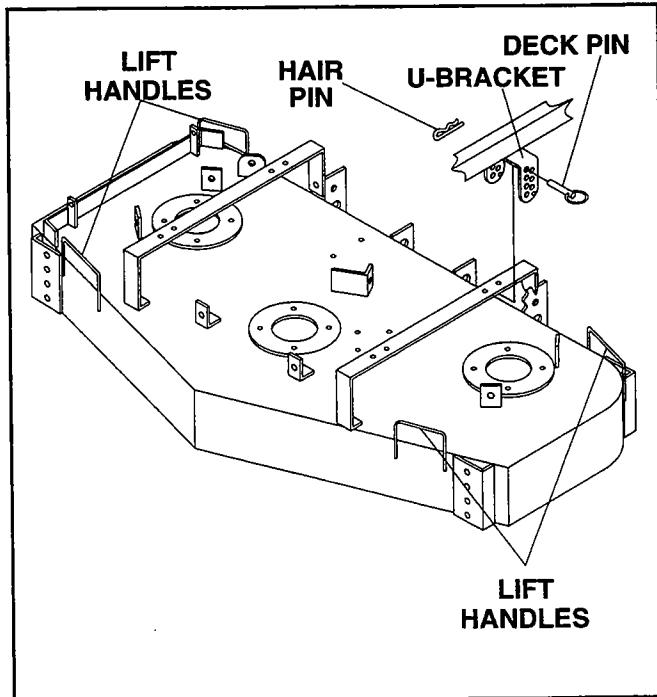

Figure 5
11. Using lift handles at deck corners (**See Figure 5**), lift deck to desired cutting height. Place pins in appropriate hole on deck U-bracket. Insert hair pins.